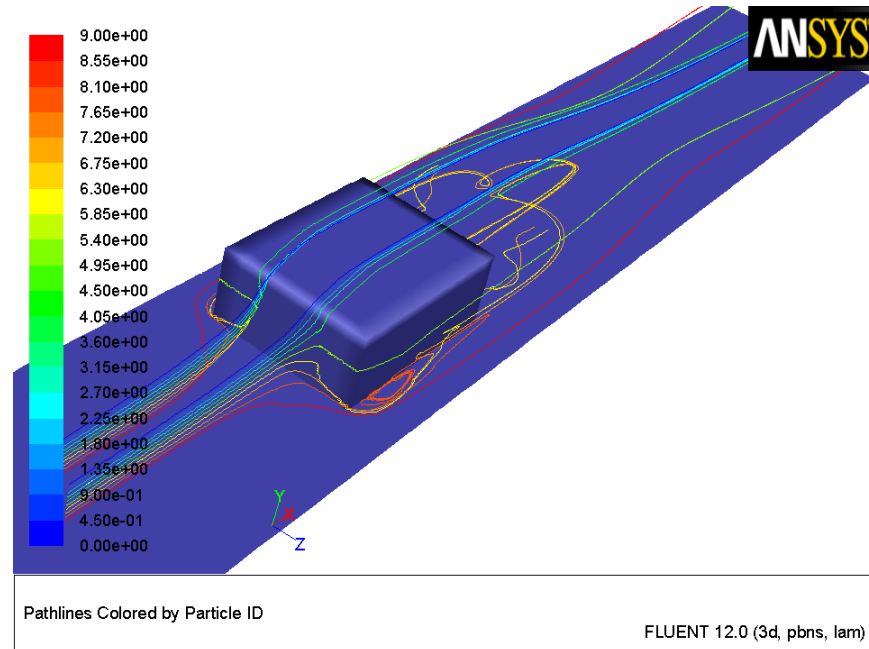

Figure 24.15: Pathlines Display
2. Draw the pathlines (Figure 24.15).
- (g) Rotate the display so that the flow field is in front and the wake of the chip is visible as shown in Figure 24.15.